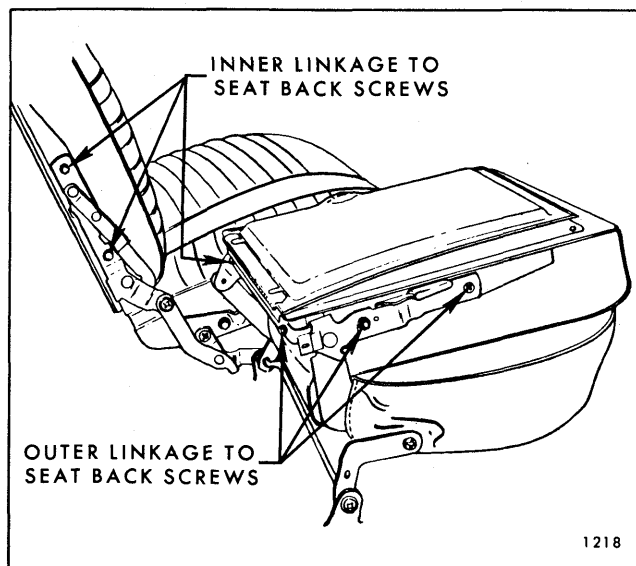

Fig. 10-74—Seat Inner and Outer Linkage
2. Remove outer and inner linkage to seat back attaching screws (Fig. 10-74). Remove seat back lock handle, spring and bushing from between outer linkage and seat back panel; then, remove seat back panel and rear floor filler panel from linkage.